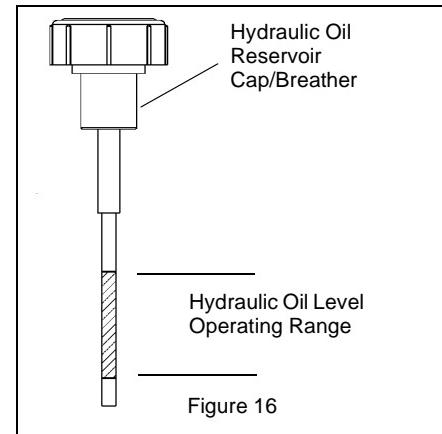

Figure 16
8. Remove cap/breather and check oil level on dipstick. Oil should be within the operating range. See figure 16.